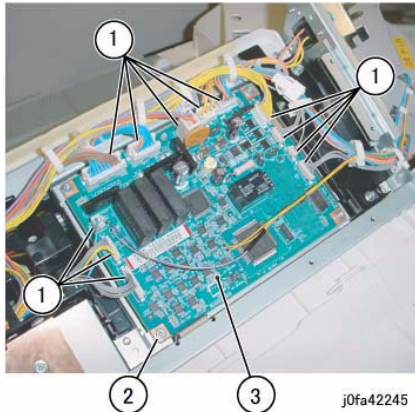

Figure 1 Removing the Finisher Control PWB (j0fa42245)
4. Remove the Finisher Control PWB. (Figure 1)